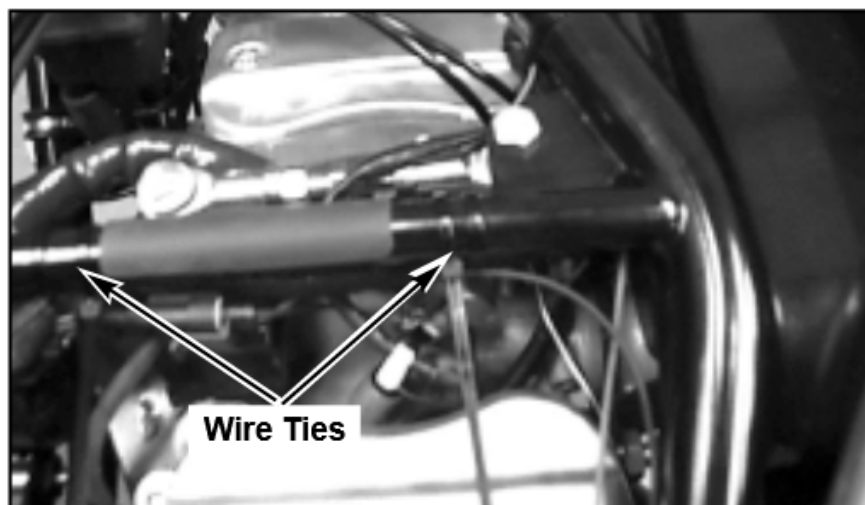

Figure 12.
18. Install wire ties to secure the harnesses at locations shown in Figures 12 and 13.